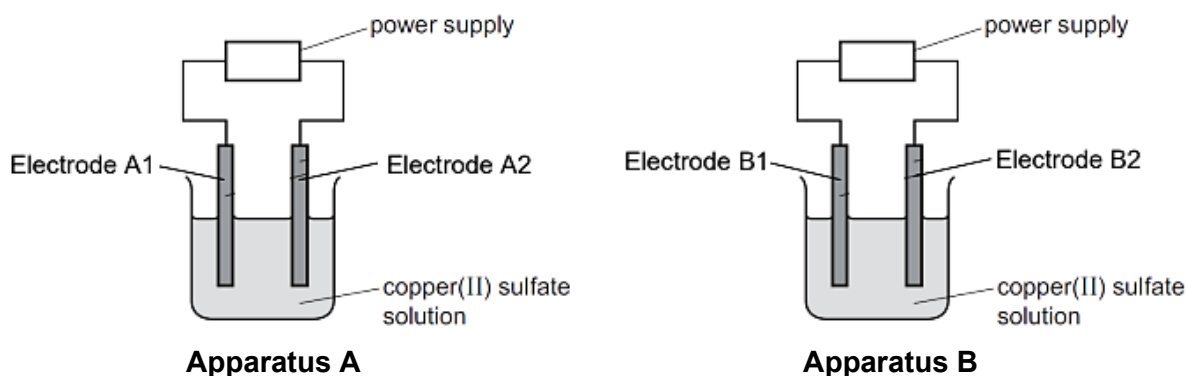

Fig. A7.1
A7 A student electrolysed aqueous copper(II) sulfate using 2 sets of apparatus shown in **Fig. A7.1** below.